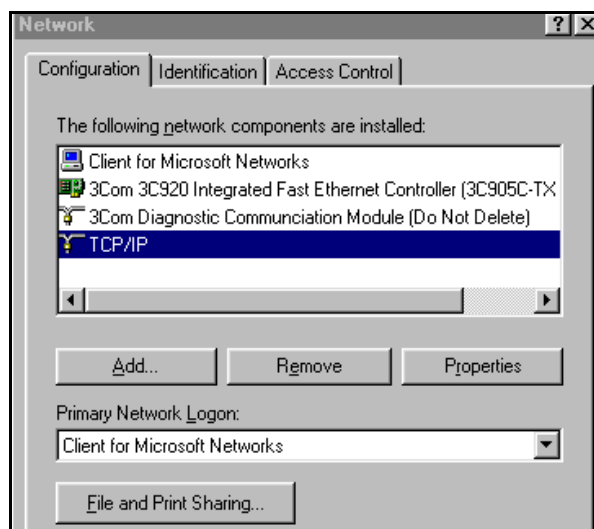

Figure 13-51 Network Window
3. Click on *Configuration* Tab in "Network" window (see Figure 13-51), and scroll down to Laptop TCP/IP Ethernet Adapter. Select *Properties*.